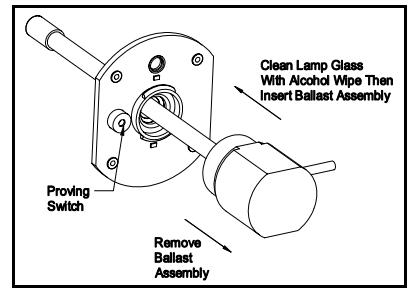

Figure 5
8. Wipe off the bulb glass with the supplied alcohol wipe. Then insert the bulb through the center hole of the mounting base. (See Figure 5) The power cord must be 90° to the view port hole on the mounting base.
2. Remove the ballast assembly and bulb from the mounting base. (See Figure 5)
7. Slide the bulb thought the hole in the mounting base. (See Figure 5)